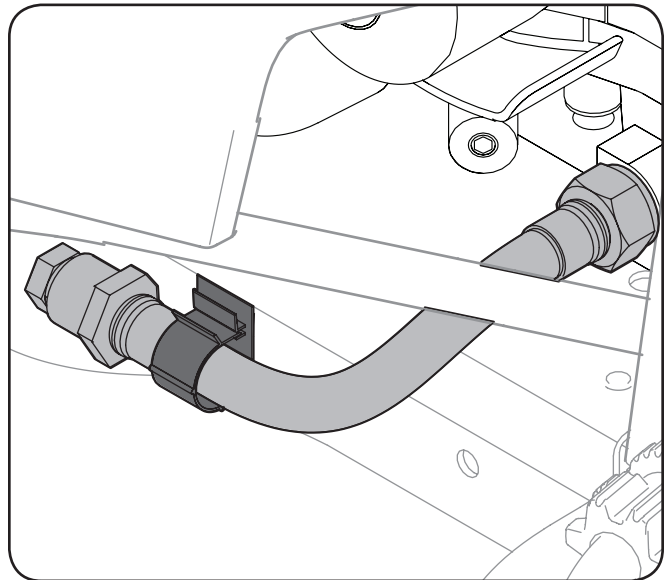

Figure 3-3
2. Before installing the front right support (#6A), the oil drain tube and clip must be removed from the frame. See Figure 3-3. The oil drain tube and clip will be fitted onto the front right support bracket when it is installed.